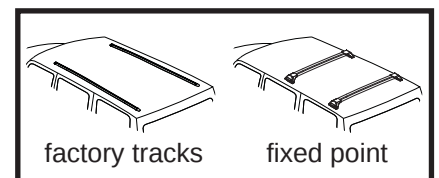

fig. 1
- ☐ For factory tracks or fixed points (see figure 1), ensure roof does not deform when heavy loads are applied